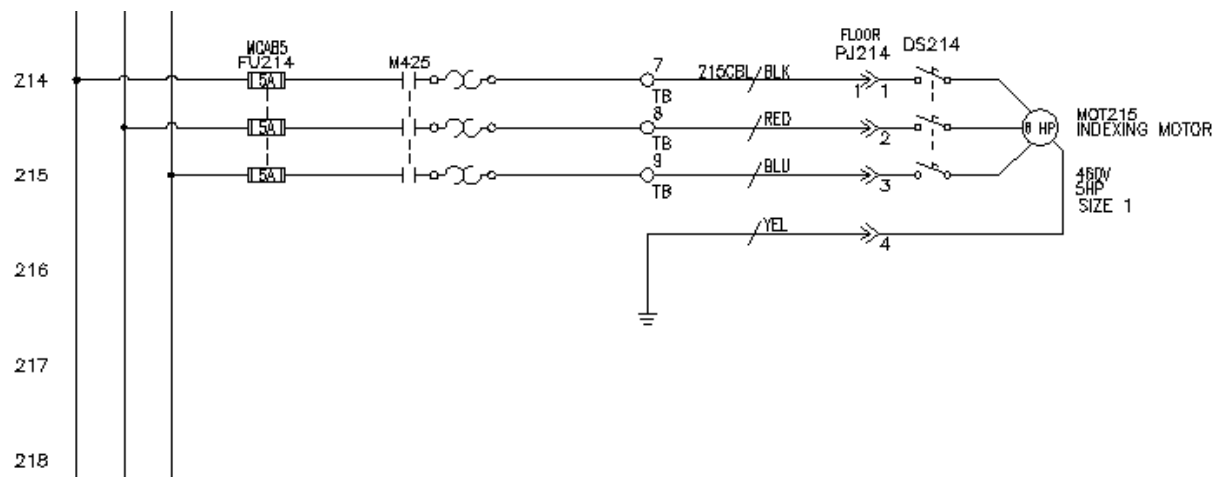

Figure 12.5: 3-Phase Circuit substation
12.5 Draw the electrical circuit diagram of 3-Phase Circuit substation as shown in Figure 12.5